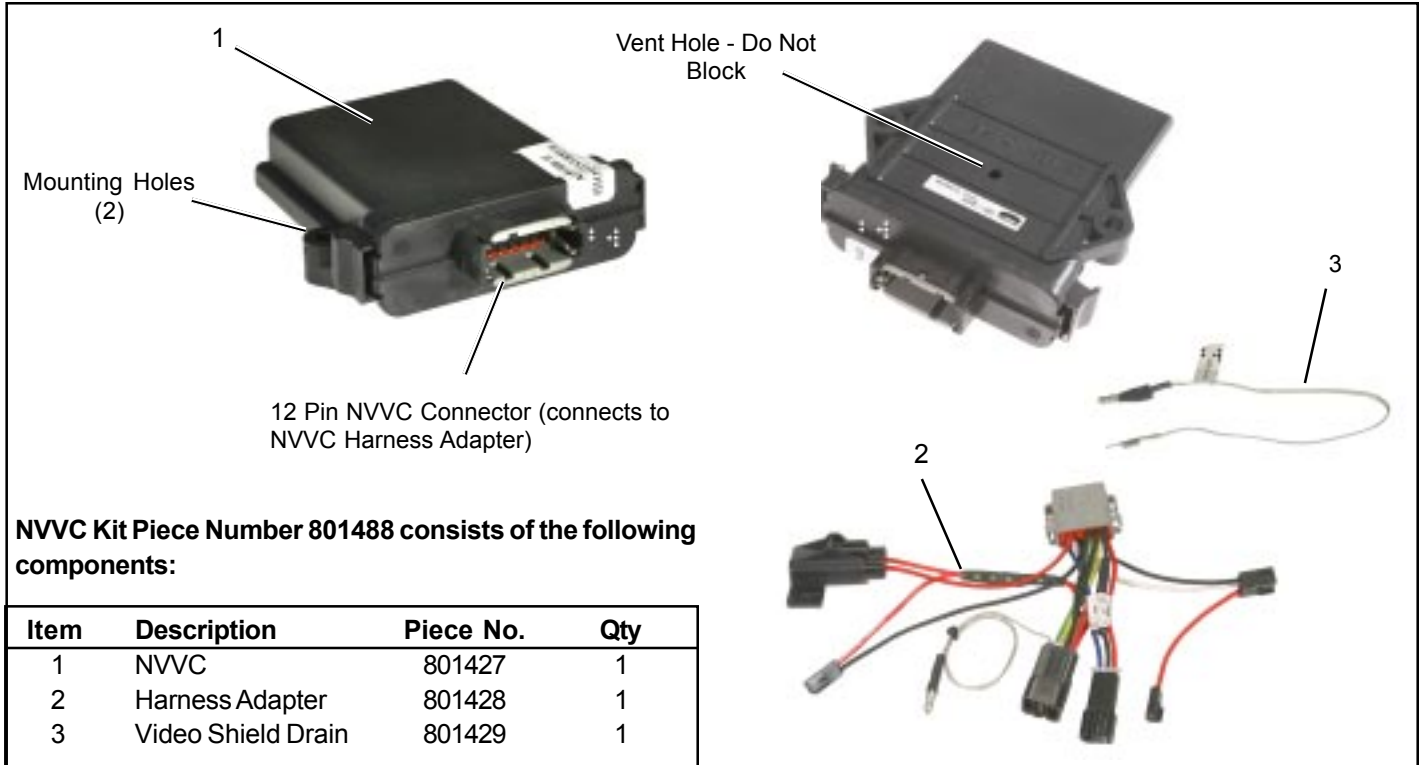

Figure 1 NVVC Kit
1. Find a suitable location to install the NVVC. Ensure that the vent hole located on the body is not covered. See Figure 1.